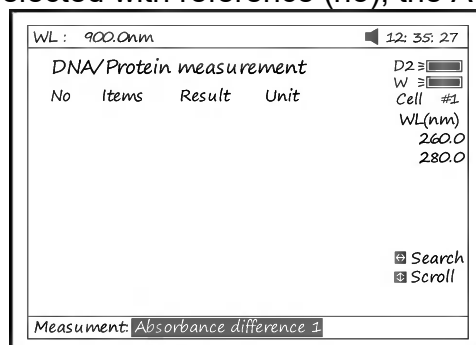
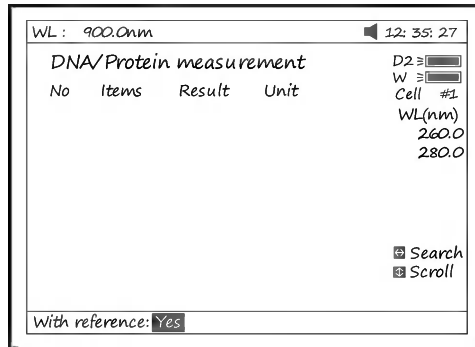

Fig 62
Fig 63
2. Press **【F2】** to select test mode. "Absorbance difference 1" is for testing at the wavelength 260nm, 280nm and 320nm (optional), and the "Absorbance difference 2" is for testing at the wavelength 260nm, 280nm and 320nm (optional, Fig 62). Then select with/without reference. If selected with reference (no), the A ref. will be "0" (Fig 63).